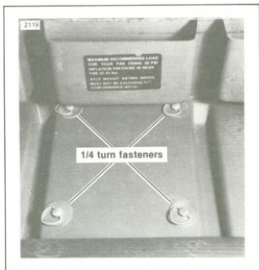

Figure 2-121. Tour-Pak installation
TOUR - PAK — FL MODELS (Late) (Figure 2-121)
3. Push down and turn each fastener, located in the bottom of the Tour-Pak, 1/4 turn counterclockwise. See Figure 2-121. Lift the Tour-Pak free of the luggage lock.
3. See Figure 2-121. Turn each fastener located in the